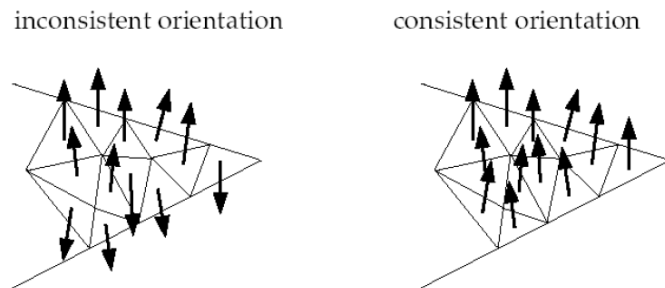

Figure 7.13.1: Inconsistently and Consistently Oriented Contiguous Faces
**Orient** orients contiguous faces (i.e., faces that touch each other) in a selected zone so that their normals are all consistently pointing on the same side of the zone. (See Figure 7.13.1.) This consistent orientation is especially important if you are going to build prisms from the boundary zone.